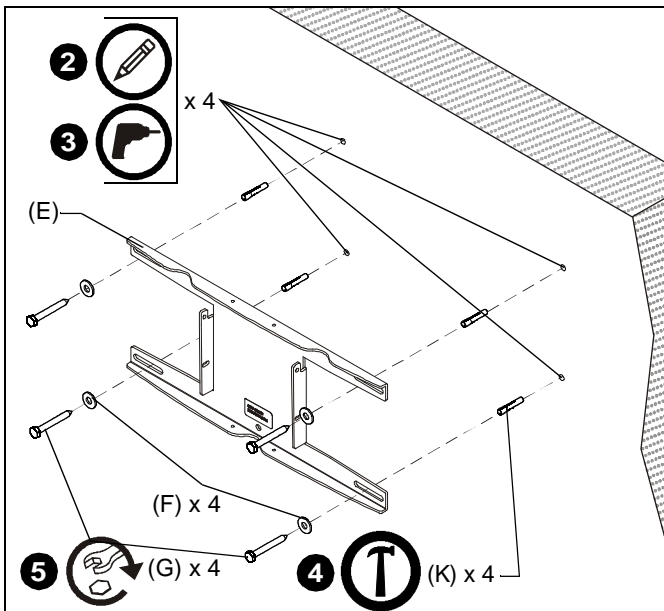

Figure 1
2. Using wall plate (E) as a template, mark four holes through mounting holes in wall plate. (See Figure 1)
3. Drill four 3/8" holes at marked locations in wall. (See Figure 1)
4. Install four anchors (K) into drilled holes. (See Figure 1)
5. Install four 5/16 x 2-1/2" hex head lag screws (G) through four 5/16" washers (F), holes in wall plate (E) and into four anchors (K). (See Figure 1)